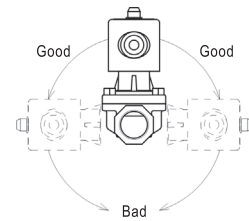

Fig.3 Steam line application
5. If the valve is used for steam and the secondary pressure is negative pressure when the valve is closed, install vacuum regulating valve (vacuum breaker) on the secondary side of solenoid valve (see Fig.3).